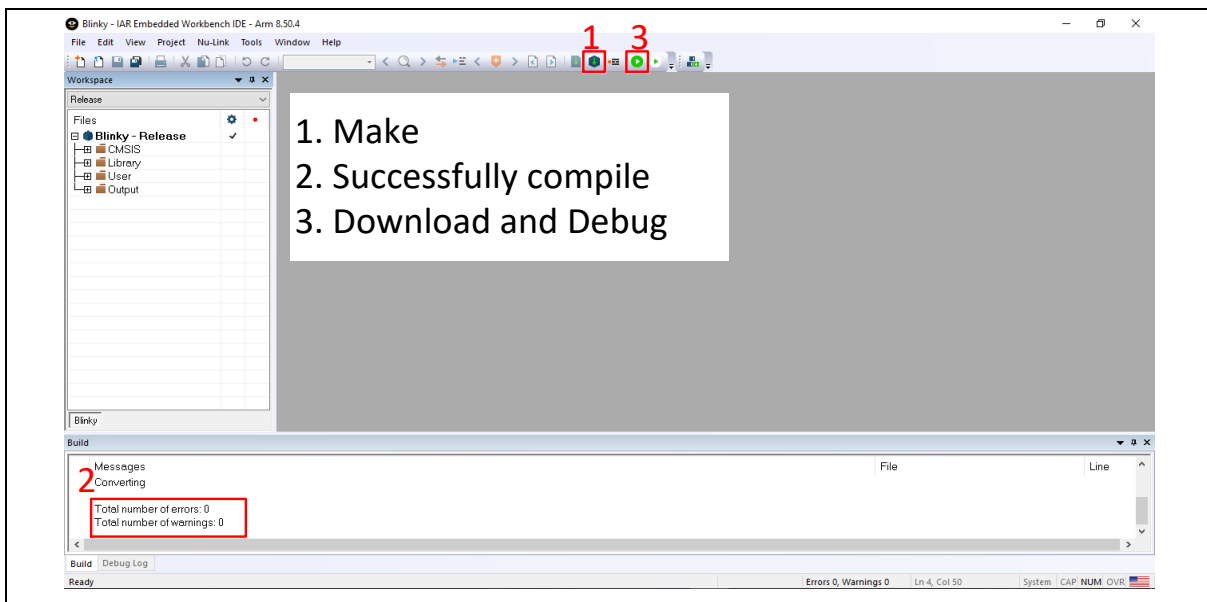

Figure 5-14 Compile and Download the Project
3. Make target file as presented in Figure 5-14. After successfully compile the project, download code to the flash memory and enter debug mode.